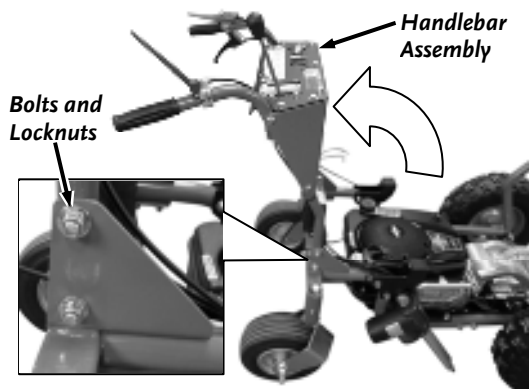

Figure 6
1. Lift the Handlebars to the operating position and install a 3/8-16 X 1-3/4 Flange Bolt and Locknut on each side using two 9/16" Wrenches (Figure 6).